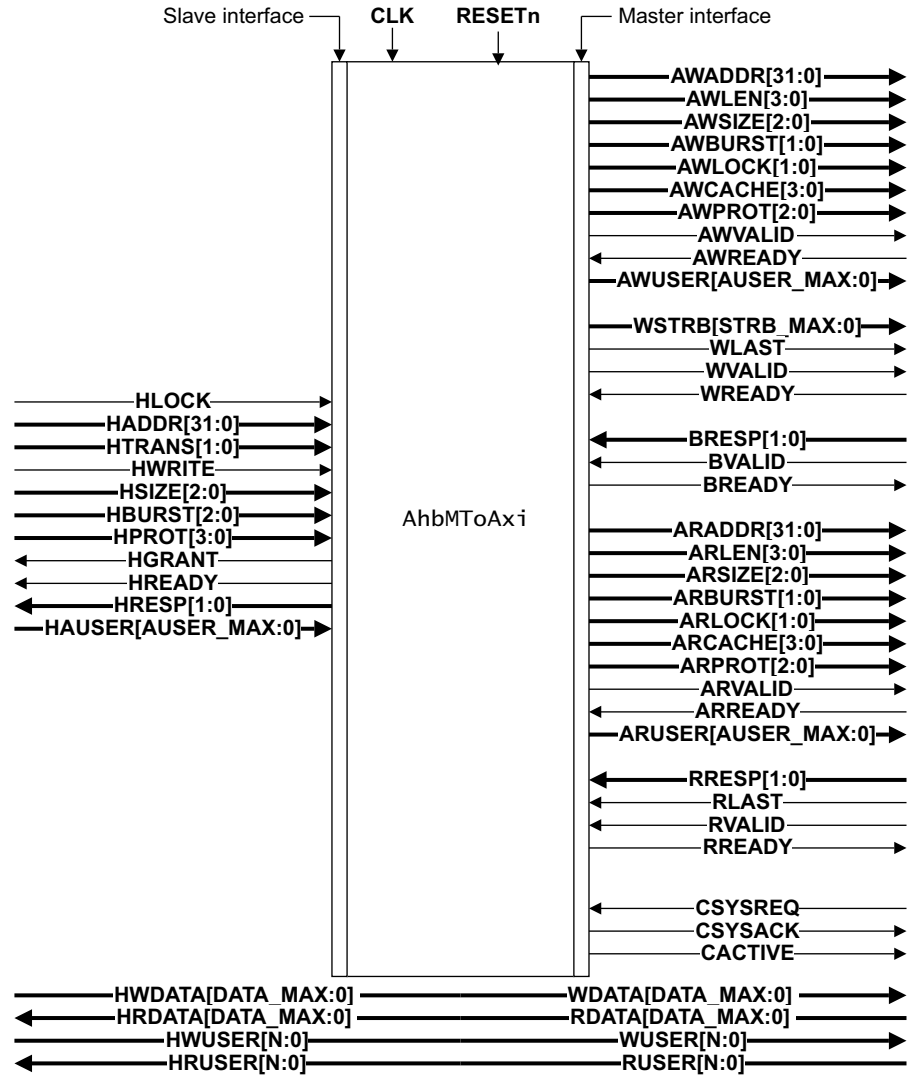

Figure 1-6 AHB master bus to AXI bridge signal connections
- Figure 1-6 on page 1-9 shows the AHB master bus to AXI bridge signal connections